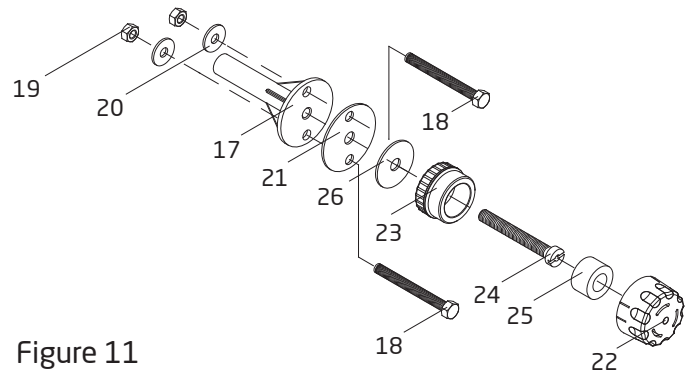

Figure 11
D. Install the hose ring (part #25) and snap the top part of the air regulator (part #22) into place. See Figure 11 for air regulator assembly.
6. Once the concrete or gunite is fully cured and pool wall is completed, install the square cover (part #8) using the four (4) M6 x 25mm square cover screws (part #9/1).
*NOTE: In tile installations, the tile thickness can be compensated for by first installing the clamping ring gasket (part #12) and clamping ring (part #3) before installing the square cover. The clamping ring and clamping ring gasket are installed using the eight (8) clamping ring screws (part #9/2, 9/3, or 9/4).*